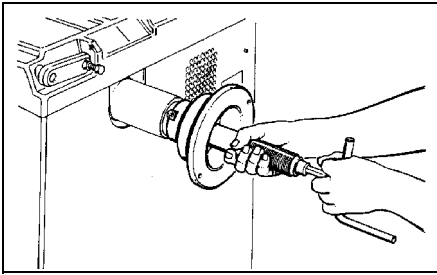

fig.9
- **Fig. 9** shows shows the **cone flange** fixing system.